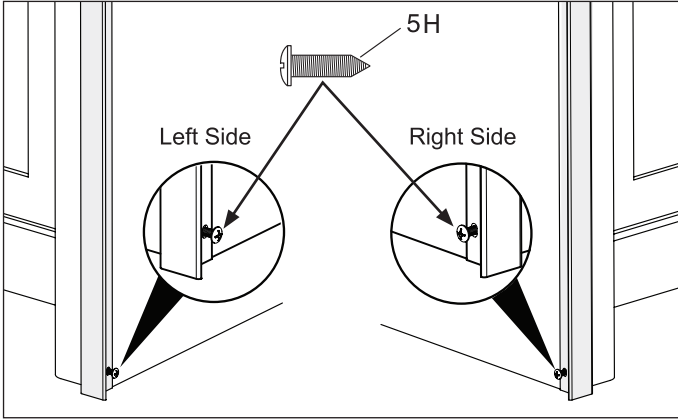

Figure 10
- c. Run screw in all the way and then back out. Remove side trim for later install. (See Figure 10).